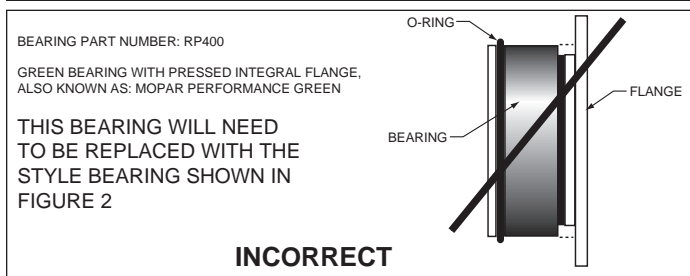
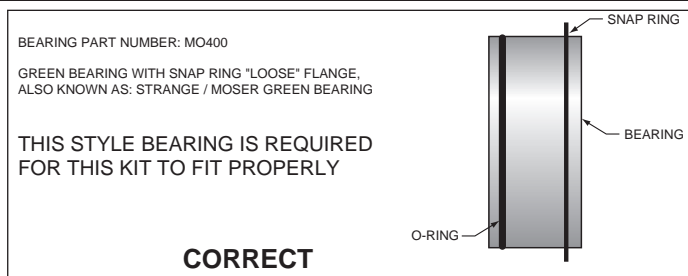
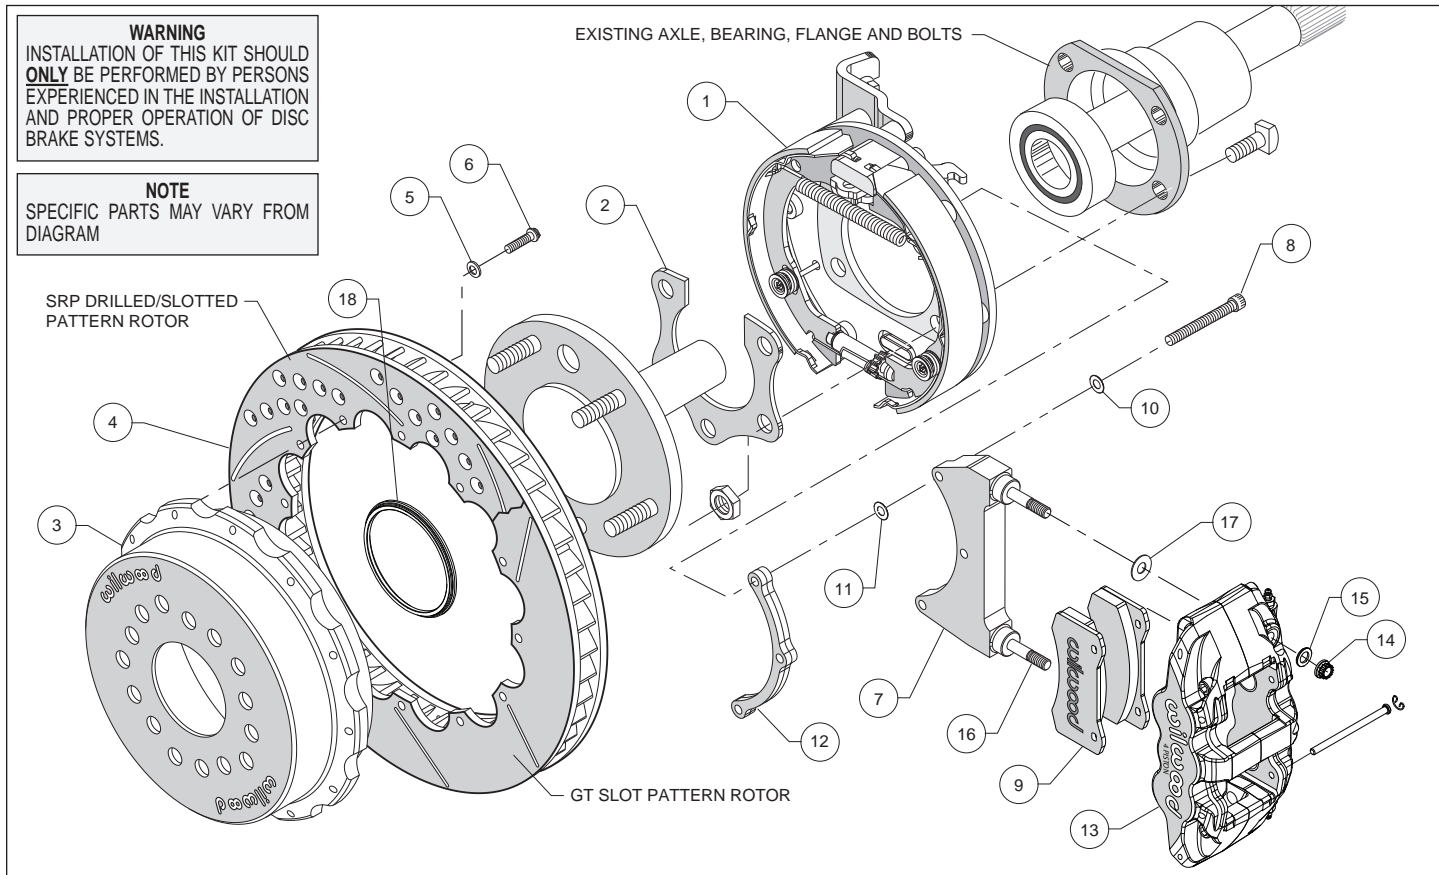

Figure 1. Press Fit Bearing Configuration
Figure 2. Loose Fit Bearing Configuration
Figure 3. Typical Installation Configuration
- It is important to verify which bearing you have. There are two types of “Green Bearings” being supplied by axle manufacturers. Your setup should look like figure 2 (below right), not the figure 1 (below left) configuration, otherwise this kit will not fit.
- Axle center register diameter is 2.80", Figure 3. This kit uses Wilwood's removable center register adapters. Rotors can either be centered on the axle register, i.e. *register-centric* or centered on the wheel studs, i.e. *stud-centric*. Due to variations in wheel stud final diameters, *register-centric* centering can be a more accurate method of centering the rotor to the axle. Wilwood offers various diameter adapters for purchase in addition to the ones supplied in this kit, see Table 1.
- Determine that the appropriate snap ring style green bearing has been installed on the axle, as shown in Figure 2. Temporarily remove snap ring from bearing. Orient the bracket assembly (1) as shown in Figure 3 and slide it onto the axle and over the bearing. Reinstall snap ring on bearing. Insert the axle and bracket into the axle housing. Ensure that the bracket assembly backing plate fits flush against the axle housing flange.
- Install the bearing retainer (2) with the opening pointing upward and the bearing relief step facing inward (toward the bearing), as shown in Figures 3 and 6. Secure retainer and bracket assembly to the axle housing flange using the Original Equipment Manufacturer (OEM) bolts and nuts, Figure 3. Apply red *Loctite*® 271 to the OEM bolt threads and torque to OEM specifications.
- Slide the rotor registration adapter (18) onto the axle register on the axle flange with the smaller O.D. facing toward the rotor/hat (3). Align the correct hole pattern in the hat with the stud pattern on the axle flange. **NOTE:** Some OEM and aftermarket axles come with stud sizes larger than 0.50" diameter. Verify stud size and have a qualified machine shop drill the hats to the correct size, if necessary. Slide the hat/rotor assembly (3 and 4) over the wheel studs covering the bracket kit assembly (1) and against the axle flange face. Check to be sure the hat seats squarely against the hub. Install three lug nuts (finger tighten) to keep the rotor/hat assembly in place while continuing with the installation.
- NOTE:** Please reference the caution statement at the beginning of the assembly instructions. The caliper mounting bracket assembly (7) should be installed first with clean, dry threads on the mounting bolts (8). Install the bracket from the rear side of the bracket kit assembly (1) by sliding bolt (8) through flat washer (10), bracket (7), shim washer (11) and finally through the spacer (12), see Figure 1. **NOTE:** End of bolt should not exceed inside face of insert. The bracket must tighten squarely against the back side of the bracket kit assembly (1). Inspect for interference from casting irregularities, machining ridges, burrs, etc. Use one thin shim (11) between the bracket (7) and spacer (12) during initial trial fitting.
- Lubricate caliper mounting studs and nuts with lightweight oil. Install one washer (17) over each pre-installed stud (16) on the radial mount bracket (7). Slide the caliper (13) in place over the studs and rotor, then install the washer (15) and lock nut (14) to hold the caliper in place. The caliper bleed screws should be pointing up. Snug the lock nuts (14) and check that the rotor (4) is centered in the caliper (13). Add or subtract .015" shims (11) as necessary between the caliper mounting bracket (7) and the spacer (12) to center the caliper (13).
- Remove the two pad retaining pins from the caliper (13) by carefully popping out the pin retaining clips and sliding out the pins. Insert the brake pads (9) into the caliper from the bottom, Figure 1. With the friction material facing the rotor, secure the brake pads in place with the pad retaining pins and clips. Reinstall the caliper onto the caliper mounting bracket and temporarily tighten the lock nuts. Check that the top of the brake pad is flush with the outside diameter of the rotor. If not, adjust by adding or subtracting shims (17) between the caliper and the bracket.
- Adjust the parking brake shoes outward (using a drum shoe adjustment tool available at your local auto parts store) while spinning the hat (3) until a slight drag is felt against the hat/drum. Remove the lug nuts that were holding the hat/rotor in place. Install the wheel and lug nuts. Check to see that the wheel rotates freely without interference.
- Once all clearances have been checked, remove the wheel, caliper, hat/rotor from the bracket kit assembly (1). Secure the caliper mounting bracket (7) to the bracket kit assembly (1) using red *Loctite*[®] 271. Torque bolts (8) to 180 in-lb. Reinstall the hat/rotor assembly and again use lug nuts to hold it in place. Reinstall the caliper, torque the caliper nuts (14) to 47 ft-lb.
- NOTE:** Clevis and cable kits which attach to the parking brake assembly are not included in the Wilwood parking brake kit. Wilwood offers a generic style parking brake cable kit, P/N 330-9371 for this application which can be ordered separately from your local Wilwood dealer or by calling Wilwood customer service at (805) 388-1188.